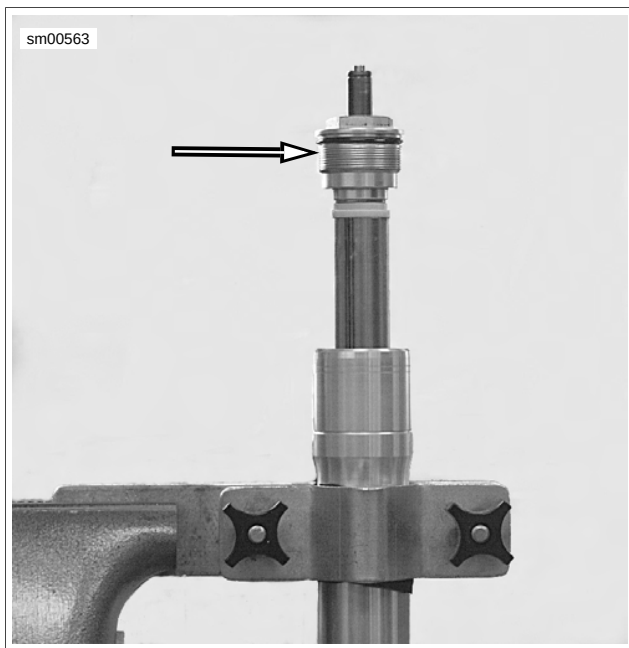

Figure 2-76. Removing Fork Cap From Outer Tube
5. See Figure 2-76. Remove fork cap from outer tube.